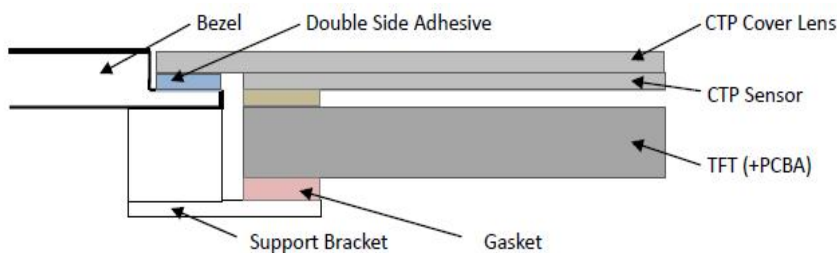

Figure 2
Active area is divided into 9 measuring areas (Refer Fig. 2). Every measuring point is placed at the
9.2 Surface Mounting (Figure 2)
9.2 嵌入安装 (附图 2)